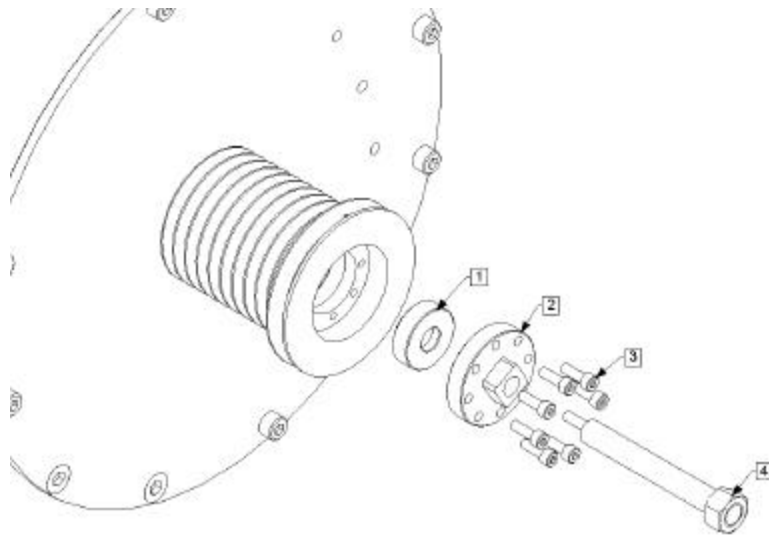

Fig. 37 — Attaching the PTO Bearing Puller to the Drive Plate Assembly
- Remove the Cap Screws and End Cap (Items 1 & 2, **Fig. 37**).
- Remove the Splined Drive Cap Screws and the Drive Cap (Items 3 & 4, **Fig. 37**).
- With a sharp pointed awl or similar tool, remove the flat wound spiral retaining ring (Item #5, **Fig. 37**)
- Attach the PTO Bearing Puller in place of the Splined Drive Cap, as shown in **Fig. 37**.
- Insert the Puller Alignment Bushing (1).
- Attach the Puller Cap (2) with the Drive Cap Screws (3).
- Thread in the PTO Bearing Puller Bolt (4).